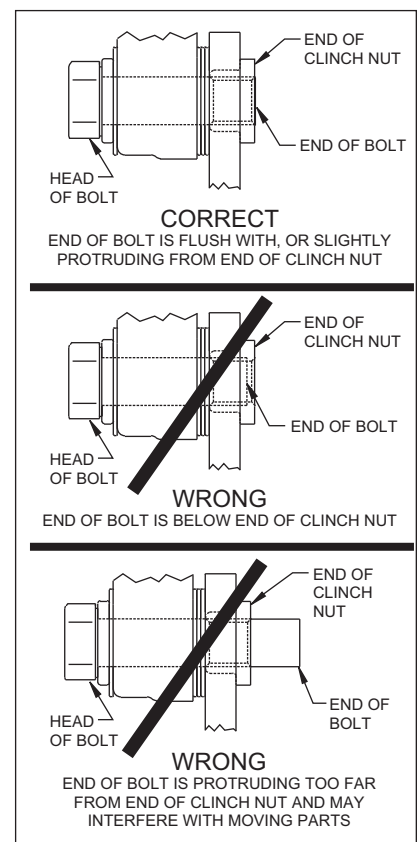

Figure 4.
- NOTE:** Please reference the caution statement at the beginning of the assembly instructions. Mount the caliper (10) onto the caliper mounting bracket (1) using bolts (11) and washers (12). View the rotor (6) through the top of the caliper (10). The rotor (6) should be aligned in the center of the caliper (10). If not, loosen the two bolts (11) and adjust the caliper (10) by using 0.035 inch thick shim washers (13). The shim washers (13) should be placed between the caliper (10) and the caliper mounting bracket (1). Finger tighten and recheck alignment. Add as many shim washers (13) as necessary to achieve the correct alignment. **NOTE:** The end of the bolt must be flush with or slightly protruding from the head of the clinch nut. See Figure 4. Place spare shims (13) between washer and caliper mounting ear to achieve the proper mounting fastener configuration. Always use the same amount of shims on both the top and bottom caliper mounting bolts (11). Loosen the two bolts (11) and apply red *Loctite*® 271 to bolt threads (11) and torque to 30 ft-lb. Safety wire the two bolts (11).
- Install the disc brake pads (14) and secure using cotter pin (15). Repeat this procedure for the other wheel.